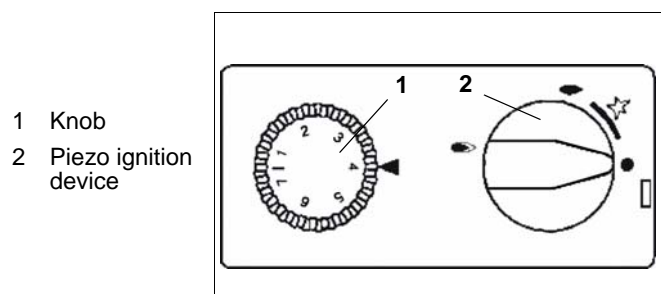

Fig.9 Operating panel
The left and right plate halves are operated separately, each by a rotary knob (1 / Fig.9) and a Piezo switch.
- ⇒ Press in the knob (2/Fig.9) of the piezo igniter and turn it clockwise to the stop.
- ⇒ Hold the knob (2/Fig.9) pushed in for a few seconds.
- ⇒ Turn the knob (1/Fig.9) anti-clockwise from position 1 pilot burner ignition to the desired setting.
With the knob (1/Fig.9) the temperature can be steplessly adjusted between 195 and 570°F (90 and 300°C).
- ⇒ Turn the knob (1/Fig.9) back clockwise from highest setting 7 to pilot burner ignition 1.
- ⇒ Press the knob (2/Fig.9) lightly and turn clockwise from pilot burner ignition to Off.